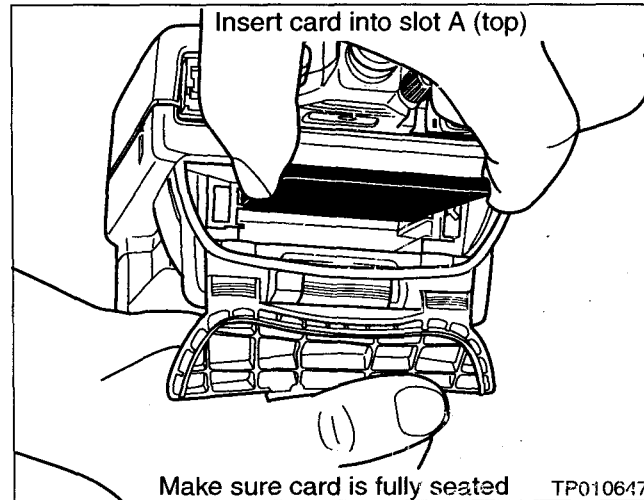

Figure 1
1. Install the ECU Reprogramming Software Card (orange) into slot A of CONSULT-II (see Figure 1).